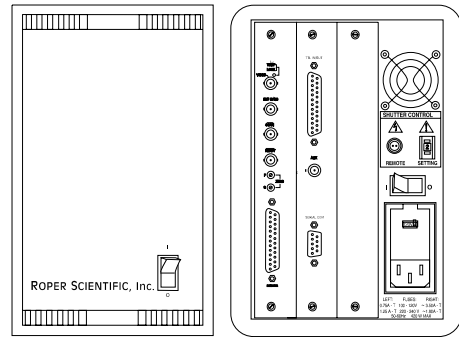

Figure 2. Power Switch Location (ST-133A and ST-133B)
**POWER Switch and Indicator:** The power switch location and characteristics depend on the version of ST-133 Controller that was shipped with your system. In some versions, the power switch, located on the front panel as shown in Figure 2, has an integral indicator LED that lights whenever the ST-133 is powered. In other versions, the power switch is located on the back of the ST-133 and does not include an indicator LED.